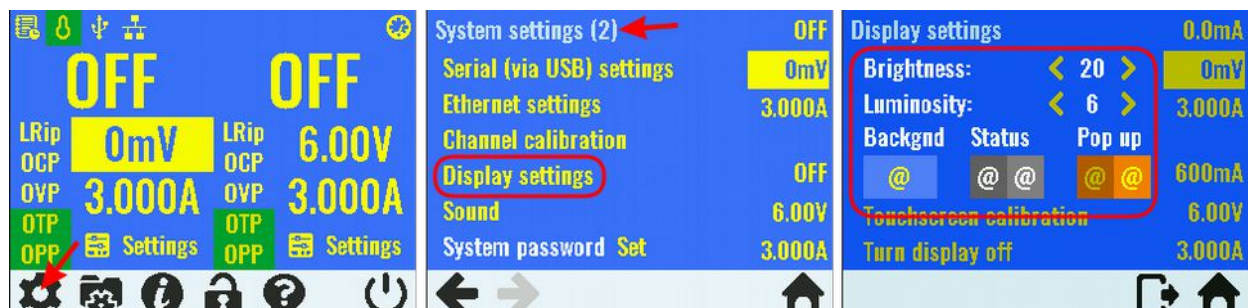

Fig. 35: Display settings page (firmware v1.01)
- Display colors are “washed out” – it appears that for used “noname” display backlight and colors intensity could vary considerably. While testing we found about half of dozen different level of backlight intensity. We tried to rectify that to some extend by offering display brightness and background color (i.e. the blue one) luminosity settings. You can find that parameters under system settings page 2 as shown on Fig. 35. We tried to set the most appropriate luminosity level for your display. The default value is 15 but if your found here e.g. 10 (for firmware v1.0) that means that your display is unfortunately is too bright (hence lower value). In that case the real “cure” is to start hunting for better unit on eBay or similar online shops.